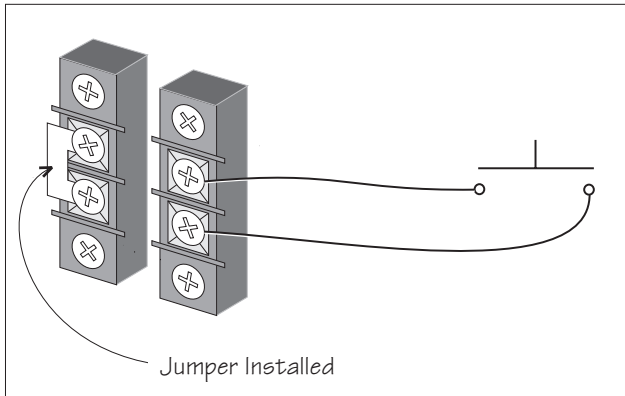
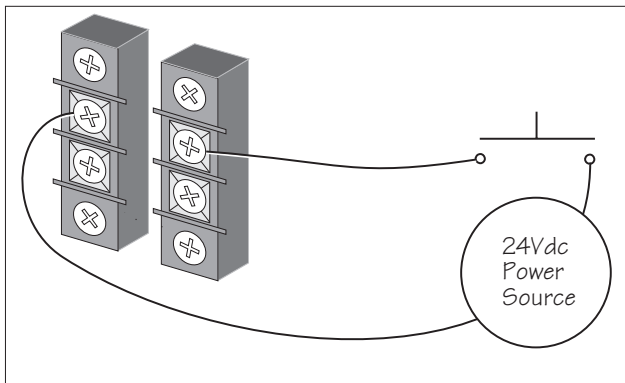

Fig 4-14 Dry Contact Switch
Fig 4-15 24Vdc EPO Switch
2. Refer to figures 4-14 and 4-15. Select the configuration that matches the type of REPO switch that is to be installed. **Note:** An existing jumper must be removed from the terminal block if a 24Vdc REPO switch (Figure 4-15) is to be installed.
Connect the contact closure REPO wiring to the terminal block as illustrated in figure 4-14 below.
Connect the 24Vdc REPO wiring to the terminal block as illustrated in figure 4-15 below.